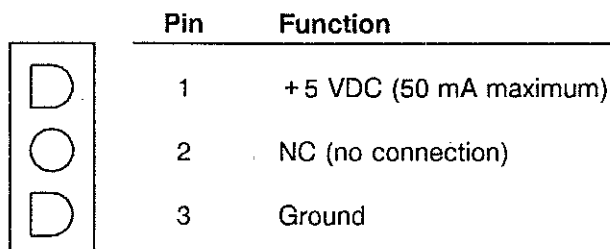

Fig. 9: Pin assignments for the accessory power control connector
Fig. 9 shows the pin assignments for the ACCESSORY POWER CONTROL connector (12):